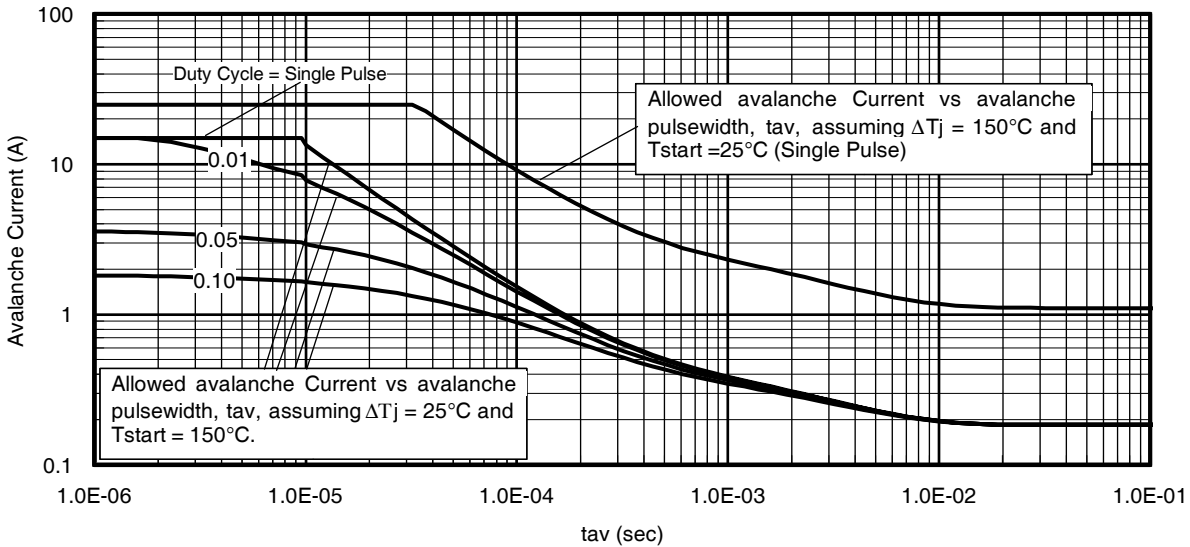

Fig 14. Typical Avalanche Current Vs. Pulsewidth
- ① Repetitive rating; pulse width limited by max. junction temperature.
- ② Starting $T_J = 25^\circ\text{C}, L = 1.00mH, R_G = 25\Omega, I_{AS} = 15A$.
- ③ Pulse width $\leq 400\mu s$; duty cycle $\leq 2\%$.
- ④ R_θ is measured at T_J of approximately 90°C .
⑤ Limited by T_{jmax} . See Figs. 14, 15, 17a, 17b for repetitive avalanche information
⑥ When mounted on 1" square PCB (FR-4 or G-10 Material). For recommended footprint and soldering techniques refer to application note #AN-994.
Notes on Repetitive Avalanche Curves, Figures 14, 15:
7. ΔT = Allowable rise in junction temperature, not to exceed T_{jmax} (assumed as 25°C in Figure 14, 15).